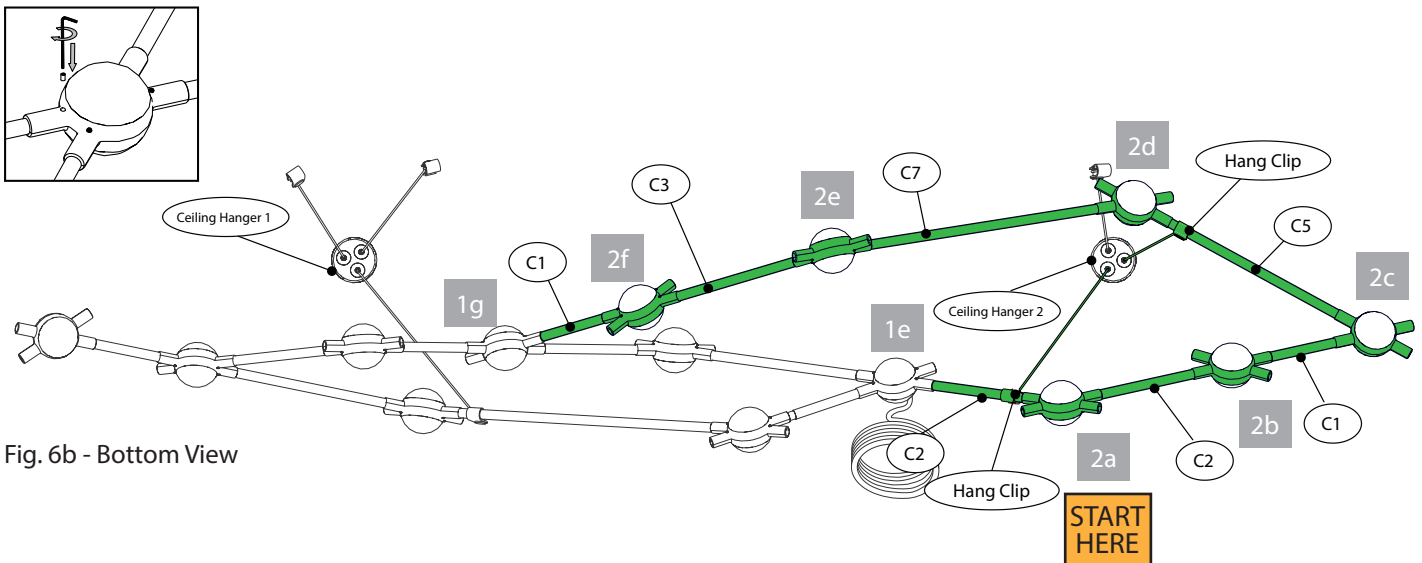

Fig. 6b - Bottom View
- Start by connecting a C2 Arm and 45° Hub (2a) to a Hang Clip from Ceiling Hanger 2 (note the Hang Clip orientation in Fig. 6b), approx. ½" from the Hub, and connect to the Power Feed Hub (1e) from Section 1. Continue by connecting the other C2 Arm and a 45° Hub (2b), a C1 Arm and 45° Hub (2c), then secure the C5 Arm and 45° Hub (2d) to another Hang Clip from Ceiling Hanger 2 (note the Hang Clip orientation in Fig. 6b), approx. ½" from the Hub (2d).